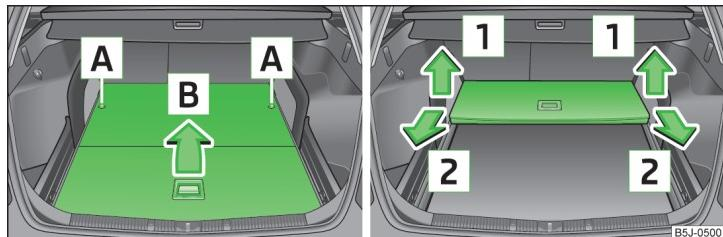

Fig. 68 Fold up variable loading floor/remove
- Unlock the variable loading floor by turning the securing bolts **A** around 180° anticlockwise » Fig. 68.
- Fold up the variable loading floor in the direction of the arrow **1** » Fig. 68 and remove by pulling in the direction of the arrow **2**.